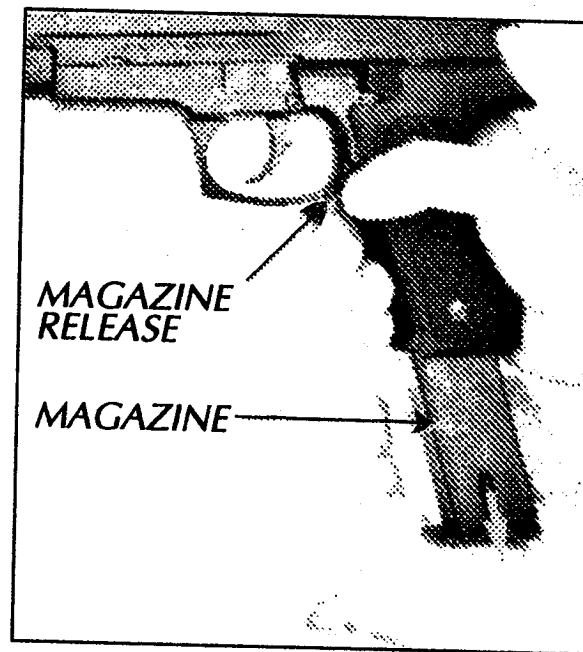

Fig. 7 REMOV. MAGAZINE
2. Remove empty magazine from pistol. Procedure: Place your hand under the magazine to prevent it from falling and press magazine release (located on both sides of pistol behind trigger guard). In that way, you released and ejected the magazine from magazine well (Fig. 7).